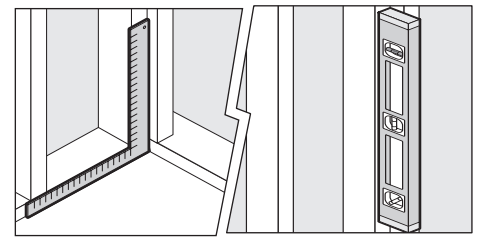

FIGURE 1. Check that studs are plumb with sub-floor/base.
- c. Floor must be clean, smooth, and level (check with level) (Fig 1). Sub floor must be installed in the stud layout. Do not install bathtub on open floor joists.